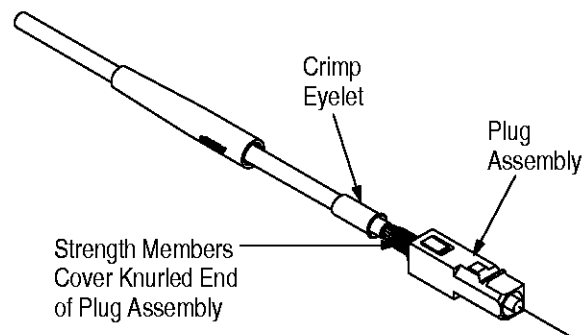

Figure 9
6. Slide crimp eyelet away from the plug assembly so that the strength members are exposed. Gently push on the plug assembly so the gap between the knurled end of the plug assembly and the cable jacket is small enough to allow the strength members to completely cover the knurled end on the plug body. See Figure 9.